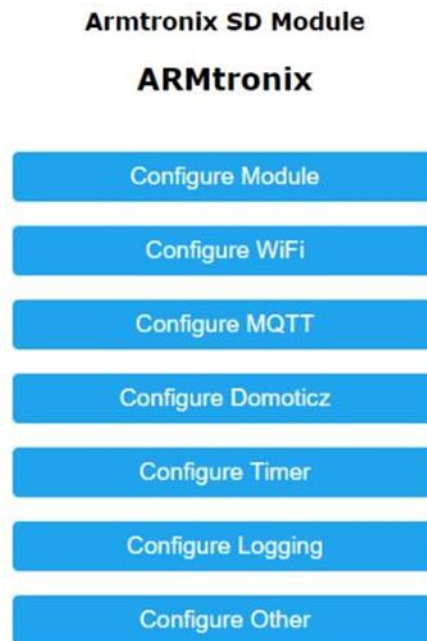

Figure 16: Option to configure to MQTT
- User shall click on the SAVE button as shown in figure 16 below, once after entering required details to get access to MQTT protocol from the web server.